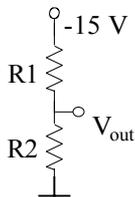

Figure 2.32
10. Find the ratio of R1 to R2 such that the output is -8 V in the circuit given in Figure 2.32. Find a pair of standard resistor values (given in section 2.2) for R1 and R2 such that above ratio is satisfied as much as possible. What is the percent error? Assuming that -8 V is reasonably approximated, can this circuit be used instead of the one in problem 9? Why?